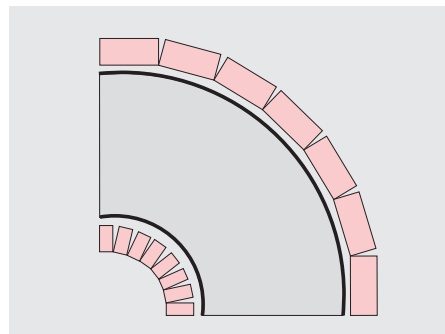

Figure 13: Acceptable (insulation scored)
- The use of rigid insulation scored, slotted or grooved on site is acceptable as shown in Figure 13.